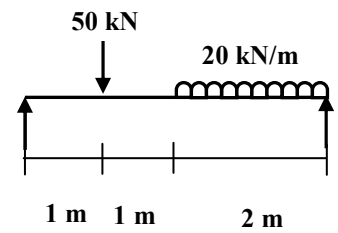

FIGURE-2 Q-3 (a) OR
- Q.3 (a)** Draw shear force and bending moment diagram for a beam as shown in figure-2. **07**